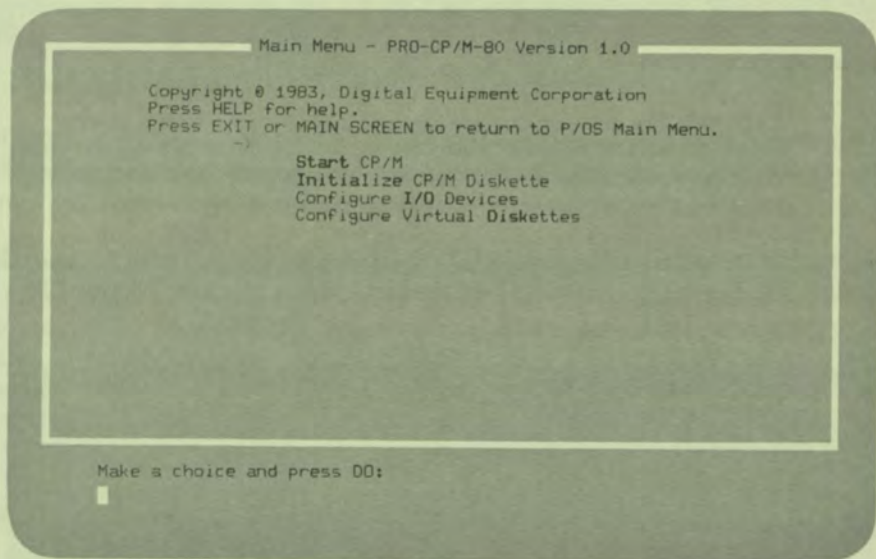

Figure 1-2
7. Press DO. The Professional displays the CP/M Main Menu (Figure 1-2).